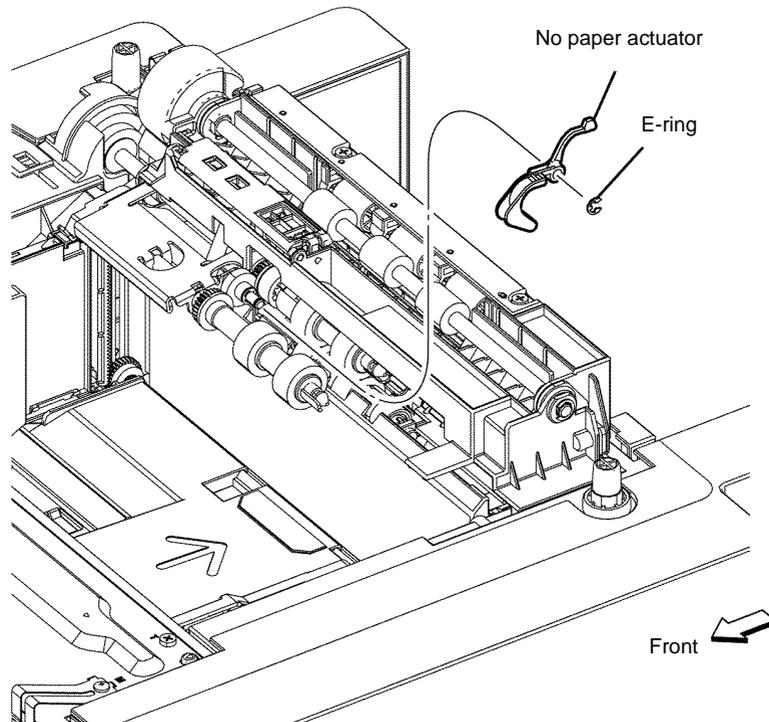

Figure 1 Option feeder no paper actuator removal
3. Remove the E-ring, then remove the option feeder no paper actuator, Figure 1.